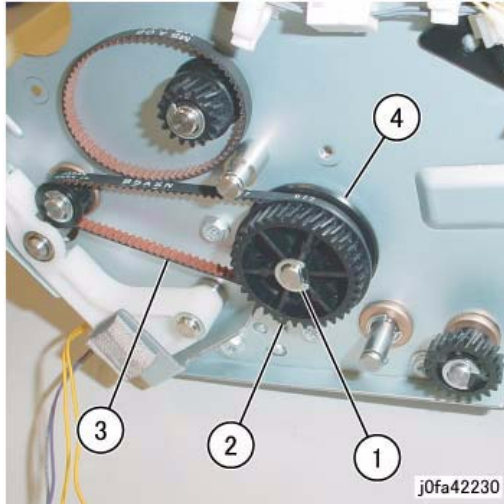

Figure 2 Removing the Gear Pulley
6. Remove the Gear Pulley (Figure 2):